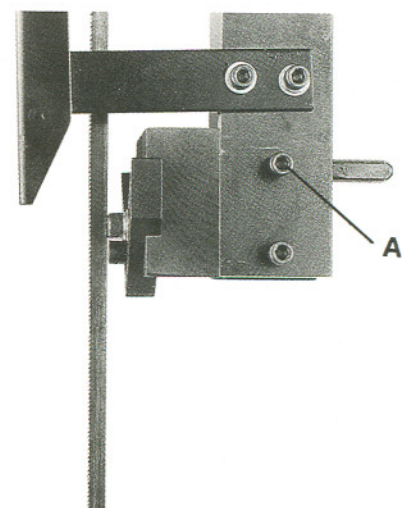

Fig. 11
- Loosen screw (A, Fig. 11) and slide blade guide assembly away from the blade until it stops.